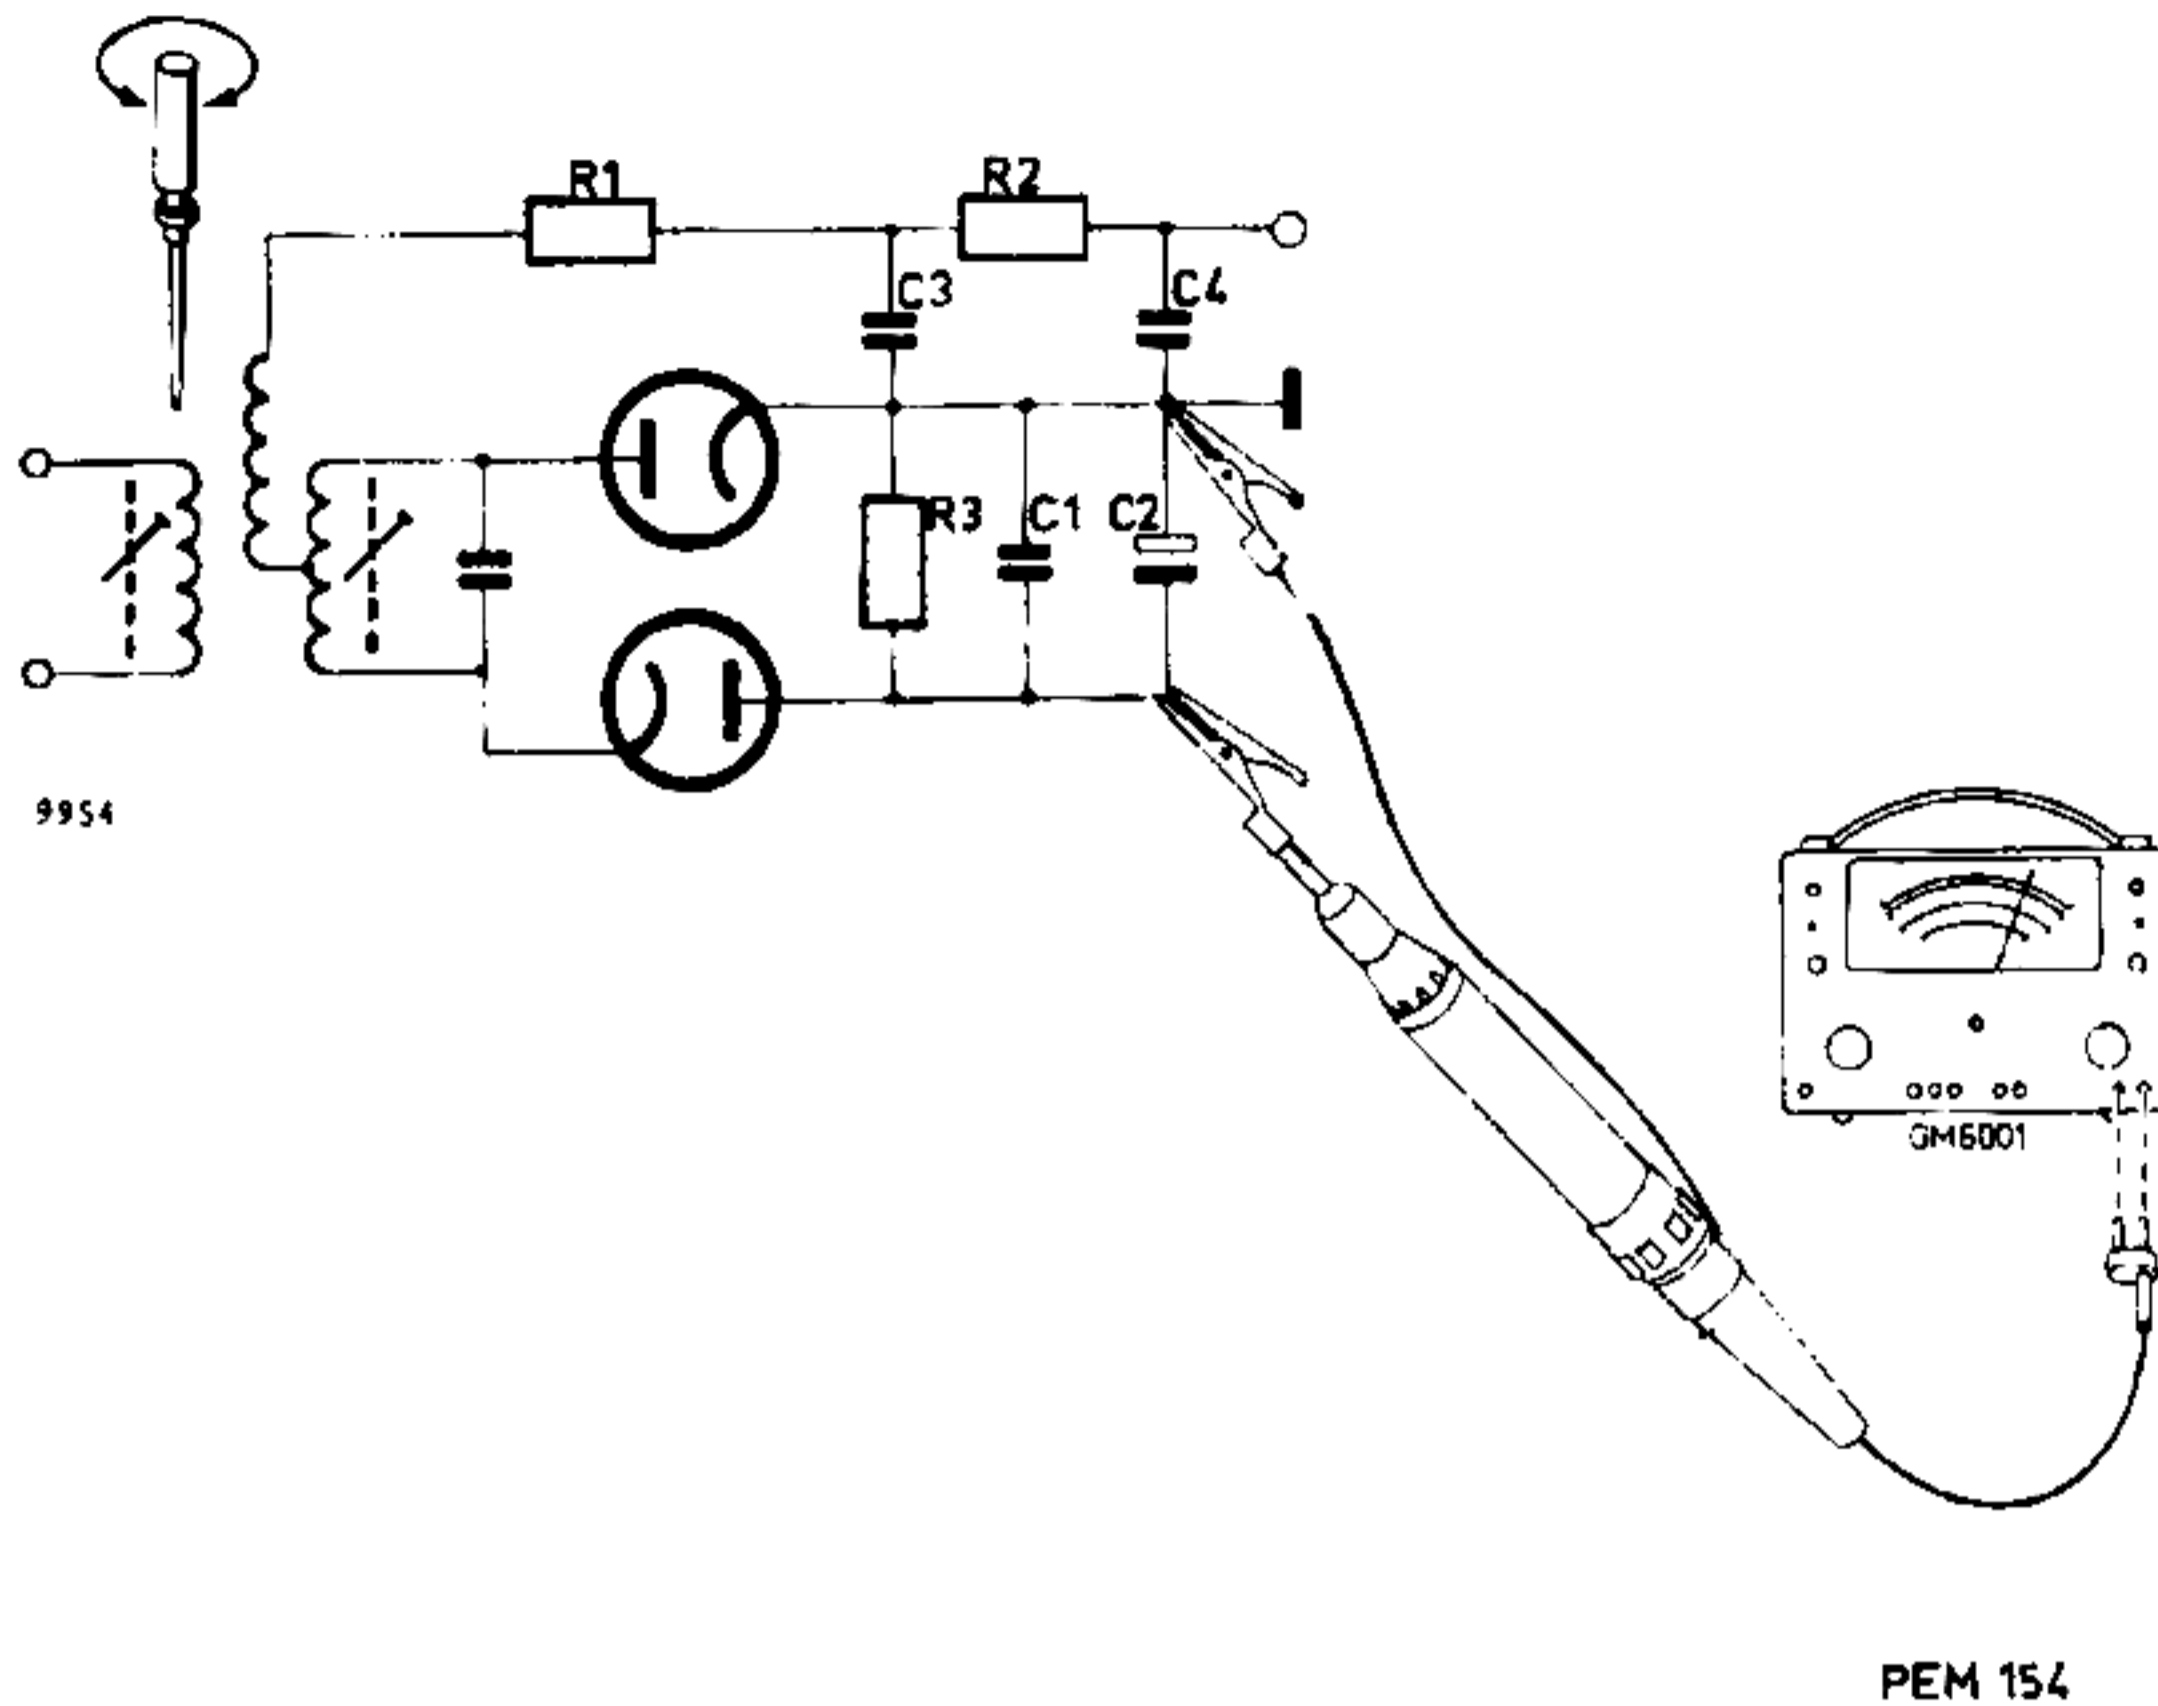

Fig. 17. Adjustment of the I.F. circuits
Adjustment of the other circuits: connect the valve voltmeter to electrolytic capacitor C2 in Fig. 17. Set the valve voltmeter to a measuring range of -3 V d.c.
6. Adjust the core of the primary circuit (Fig. 17) of the last IF band-pass filter (ratio detector) to maximum deflection of the valve voltmeter. In doing so, adjust the output voltage of the generator continuously in such a way that the deflection of the valve voltmeter does not exceed –3 V.
1. Connect the valve voltmeter across electrolytic capacitor C2 (Fig. 17). Adjust to a measuring range of -3 V d.c.